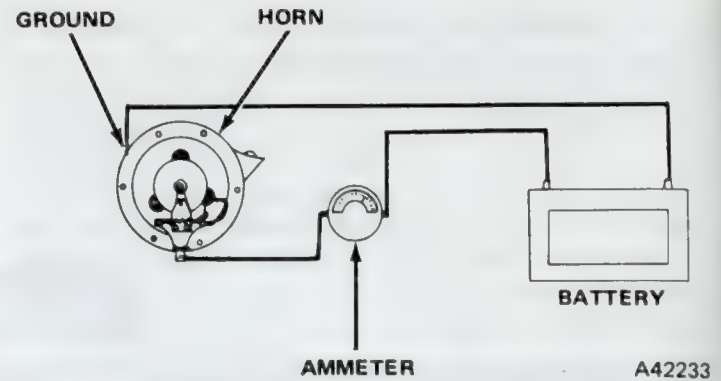

Fig. 3S-2 Connection for Horn Adjustment
(1) Check for normal battery voltage (about 12.6 volts).
(2) Connect ammeter and horn to battery and read current as shown in figure 3S-2.
(3) Adjust current to 4.5 amps.